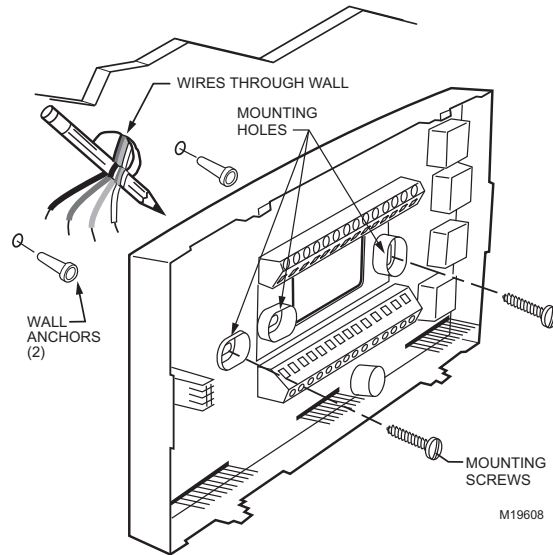

Fig. 3. Mounting the subbase.
2. Use a pencil to mark the mounting holes. (See Fig. 3.)